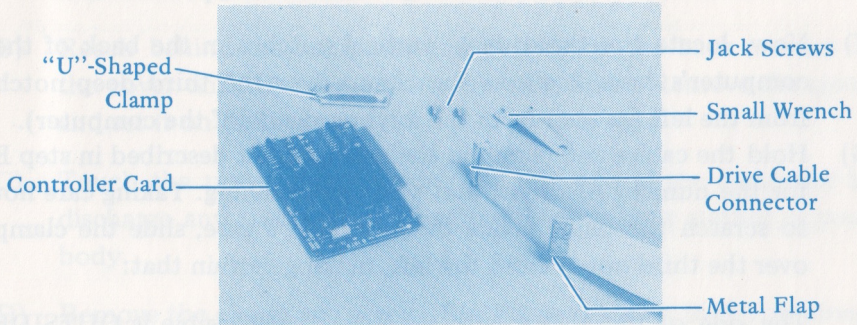

FIGURE 3 Items Required for Installation on Apple IIe
- FIGURE 3 : Items Required for Installation on Apple IIe
- E) Looking at the disk drive's ribbon-like cable, (Figure 3) you will note that it has a connector at its end, and a metal flap on its side. Feed the connector end through the lowest numbered opening available on the back panel of the computer. Then, find the "U"-shaped clamp and two jack screws (Figure 3) that came packed with your drive.